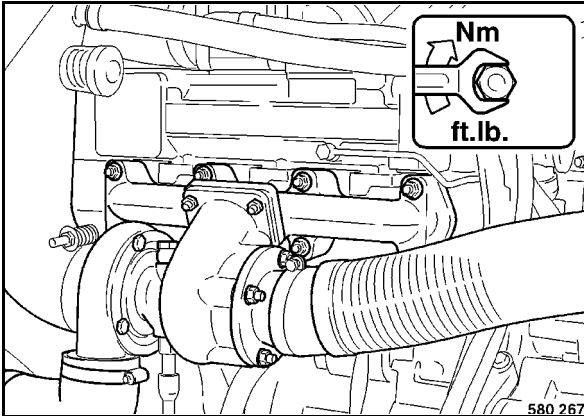

Fig. 162
- Tighten fastenings of intake and exhaust manifolds (Fig. 162) on the cylinder heads.